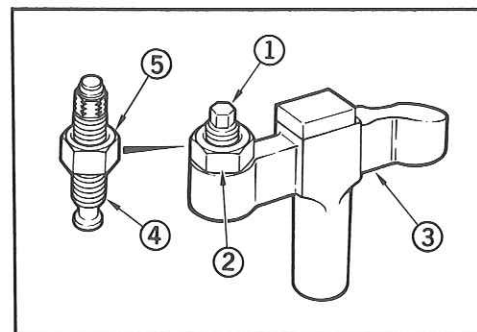

Fig. 6
Remove the exhaust valve bridge (3). See Fig. 6.